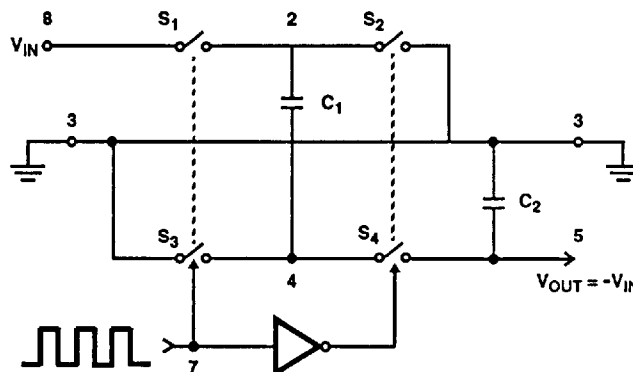
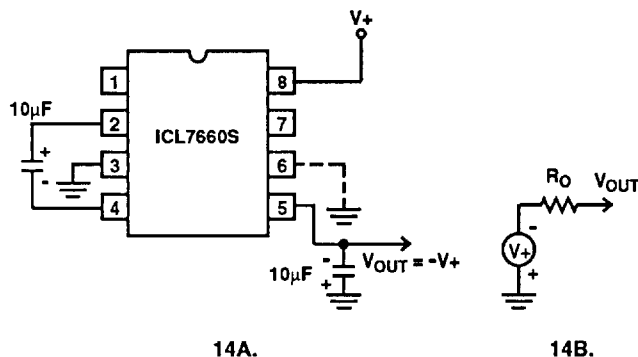
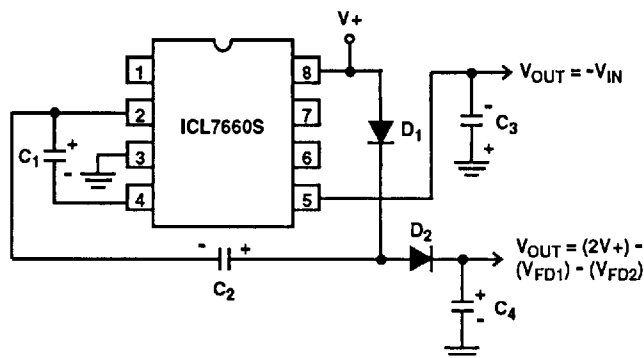

FIGURE 13. IDEALIZED NEGATIVE VOLTAGE CONVERTER
FIGURE 14. SIMPLE NEGATIVE CONVERTER AND ITS OUTPUT EQUIVALENT
FIGURE 21. COMBINED NEGATIVE VOLTAGE CONVERTER AND POSITIVE DOUBLER
The ICL7660S contains all the necessary circuitry to complete a negative voltage converter, with the exception of 2 external capacitors which may be inexpensive 10 $\mu$ F polarized electrolytic types. The mode of operation of the device may be best understood by considering Figure 13, which shows an idealized negative voltage converter. Capacitor  $C_1$  is charged to a voltage,  $V_+$ , for the half cycle when switches  $S_1$  and  $S_3$  are closed. (Note: Switches  $S_2$  and  $S_4$  are open during this half cycle.) During the second half cycle of operation, switches  $S_2$  and  $S_4$  are closed, with  $S_1$  and  $S_3$  open, thereby shifting capacitor  $C_1$  to  $C_2$  such that the voltage on  $C_2$  is exactly  $V_+$ , assuming ideal switches and no load on  $C_2$ . The ICL7660S approaches this ideal situation more closely than existing non-mechanical circuits.
In the ICL7660S, the 4 switches of Figure 13 are MOS power switches;  $S_1$  is a P-Channel devices and  $S_2$ ,  $S_3$  and  $S_4$  are N-Channel devices. The main difficulty with this approach is that in integrating the switches, the substrates of  $S_3$  and  $S_4$  must always remain reverse biased with respect to their sources, but not so much as to degrade their "ON" resistances. In addition, at circuit start up, and under output short circuit conditions ( $V_{OUT} = V_+$ ), the output voltage must be sensed and the substrate bias adjusted accordingly. Failure to accomplish this would result in high power losses and probable device latchup.
where  $V_1$  and  $V_2$  are the voltages on  $C_1$  during the pump and transfer cycles. If the impedances of  $C_1$  and  $C_2$  are relatively high at the pump frequency (refer to Figure 13) compared to the value of  $R_L$ , there will be substantial difference in the voltages  $V_1$  and  $V_2$ . Therefore it is not only desirable to make  $C_2$  as large as possible to eliminate output voltage ripple, but also to employ a correspondingly large value for  $C_1$  in order to achieve maximum efficiency of operation.
The majority of applications will undoubtedly utilize the ICL7660S for generation of negative supply voltages. Figure 14 shows typical connections to provide a negative supply where a positive supply of +1.5V to +12V is available. Keep in mind that pin 6 (LV) is tied to the supply negative (GND) for supply voltage below 3.5V.
The output characteristics of the circuit in Figure 14 can be approximated by an ideal voltage source in series with a resistance as shown in Figure 14B. The voltage source has a value of  $-V_+$ . The output impedance ( $R_O$ ) is a function of the ON resistance of the internal MOS switches (shown in Figure 13), the switching frequency, the value of  $C_1$  and  $C_2$ , and the ESR (equivalent series resistance) of  $C_1$  and  $C_2$ . A good first order approximation for  $R_O$  is:
Figure 21 combines the functions shown in Figure 14 and Figure 20 to provide negative voltage conversion and positive voltage doubling simultaneously. This approach would be, for example, suitable for generating  $+9\text{V}$  and  $-5\text{V}$  from an existing  $+5\text{V}$  supply. In this instance capacitors  $C_1$  and  $C_3$  perform the pump and reservoir functions respectively for the generation of the negative voltage, while capacitors  $C_2$  and  $C_4$  are pump and reservoir respectively for the doubled positive voltage. There is a penalty in this configuration which combines both functions, however, in that the source impedances of the generated supplies will be somewhat higher due to the finite impedance of the common charge pump driver at pin 2 of the device.